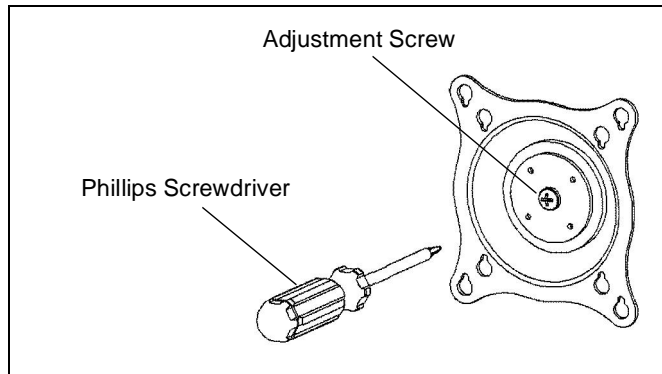

Figure 58
2. Using Phillips screwdriver, slightly loosen or tighten the adjustment screw as necessary. (See Figure 58)